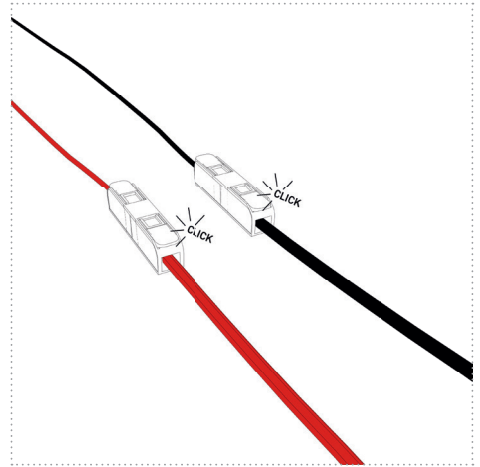

Figure 19
3. Now connect the on-board cables to the connection terminals of the connection cable (Figure 19). Note that the red cable is the positive pole (+), the black cable is the negative pole (-).